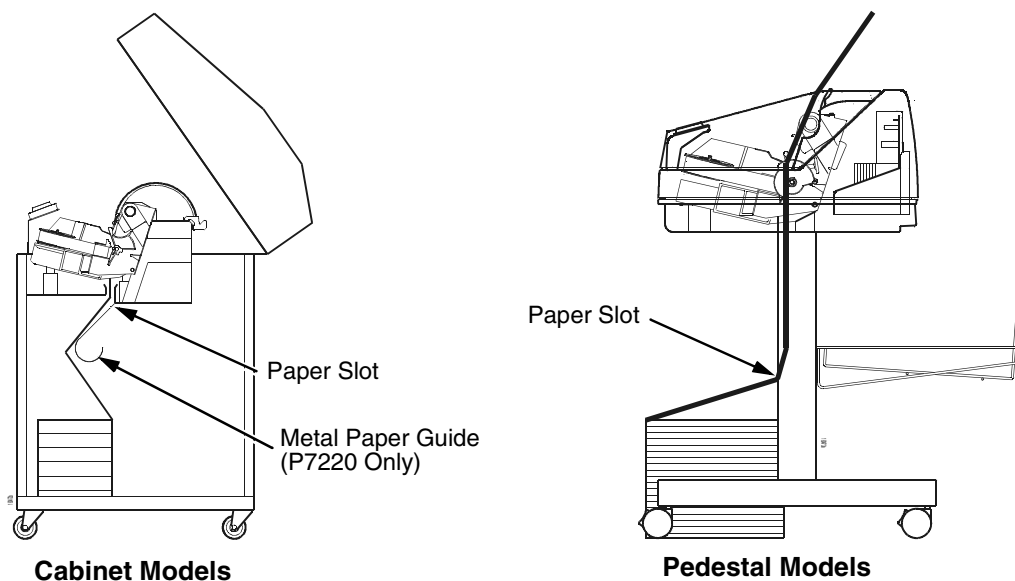

Figure 6. Paper Slot Location
4. Feed the paper up through the paper slot (see Figure 6). It may be easier to feed one corner of the new paper up through the slot first. When this corner can be grasped from the top, rotate the paper back to the normal position.